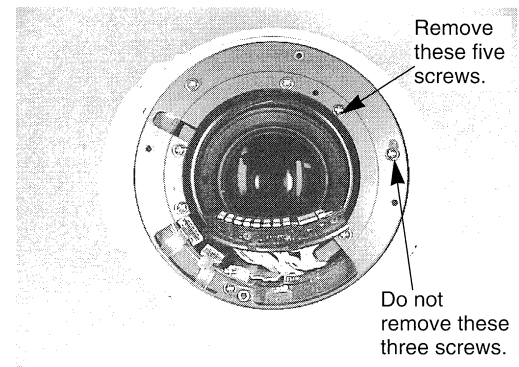

Fig. 3-6 Fixed Barrel Bottom
- Do not remove the three screws on the bottom of the fixed barrel (see Fig. 3-6). (These screws hold the focusing unit.)